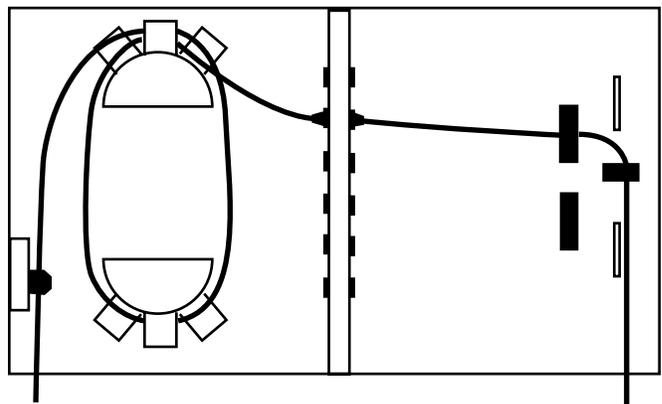

Figure 19
- Step 2: Once connections are made, route cable slack around the plastic guides inside the telco compartment (Figure 19).